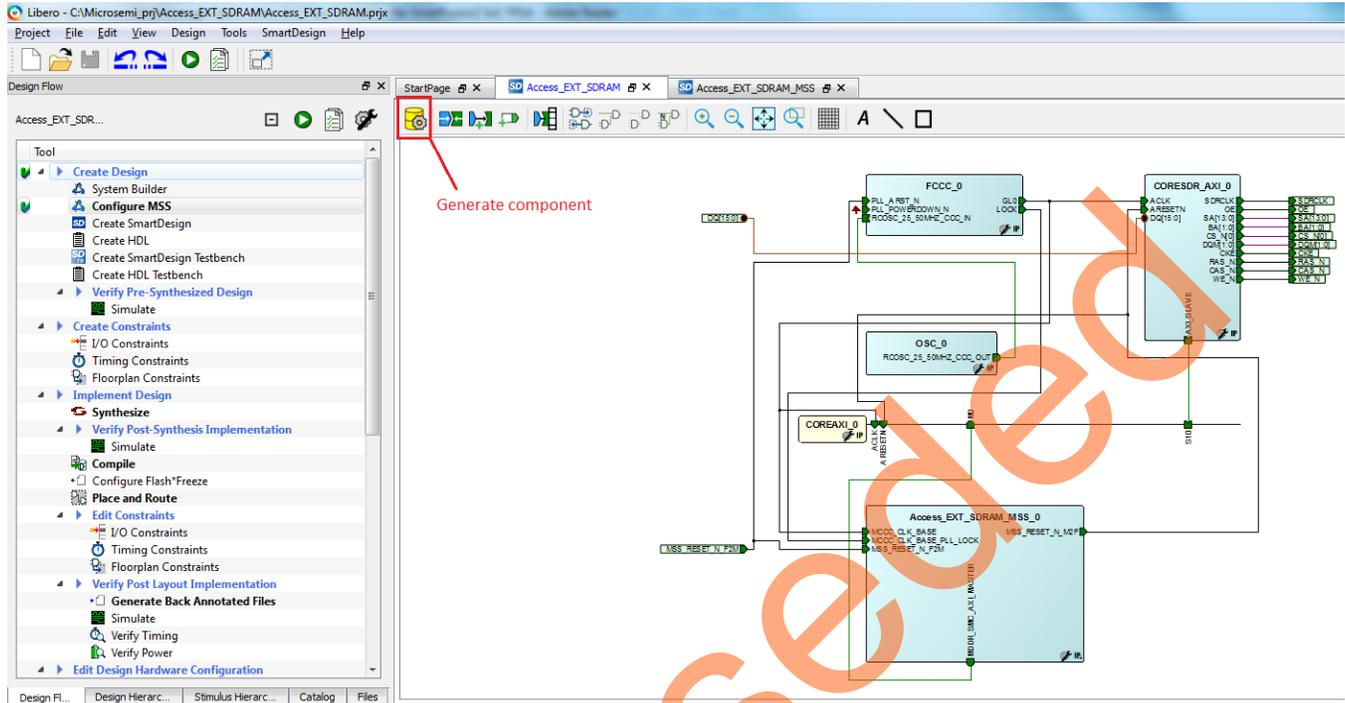

Figure 25. Generating MSS Component
1. Select **Access_EXT_SDRAM** tab on the **SmartDesign** canvas and click **Generate Component** on the SmartDesign pane (as shown in Figure 25) or select from **SmartDesign > Generate Component**.